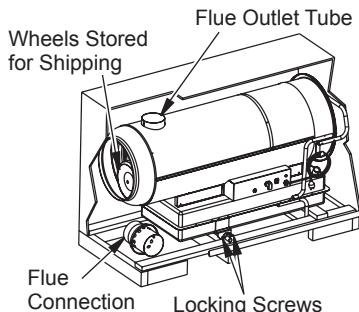

Figure 2 - Removing 280-IF from Carton
4. Unscrew the locking screws on hub locking bar (see Figure 2).